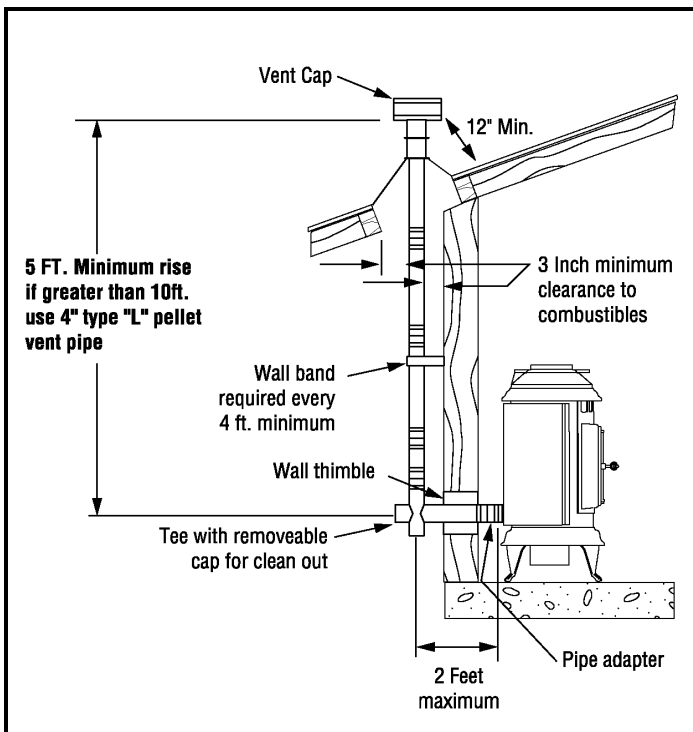

FIGURE 6
- a. When exiting through the wall with your Type "L" pellet vent pipe, you may go straight out through a wall thimble. You must connect a pellet vent tee at this point and extend the vent pipe at least 5 feet vertically outside to provide good draft and allow the gases to exit. The tee must have a clean out cap for inspection and regular cleaning (see Figure 6). Whenever the pipe run in any installation is 10 feet or more, the use of 4-inch Type "L" vent pipe is required. Horizontal runs must be limited to 2 feet. A wall band is required for every 4 feet minimum on a vertical run at an exterior wall.